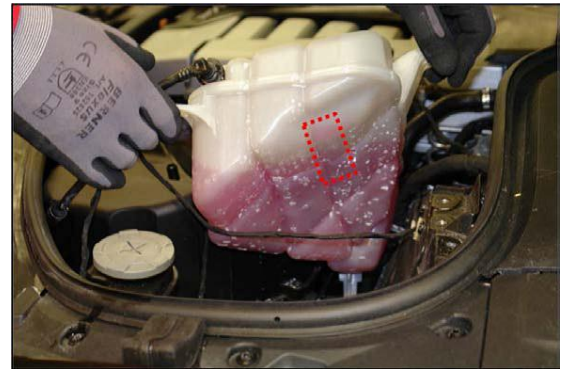

Figure 4. Lifting up coolant expansion tank
3. Lift up coolant expansion tank to find the manufacturing date (Figure 4).